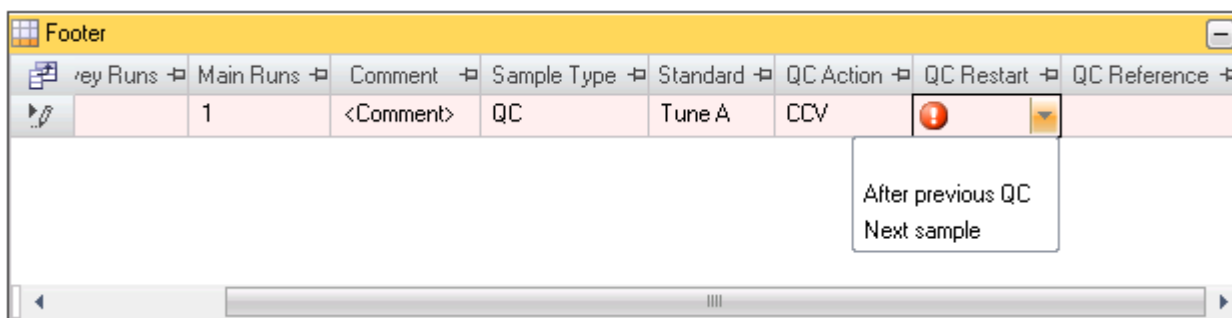

Figure 6-78. QC Restart drop-down in eQuant Template Sample Definition Footer
11. For the column **QC Restart**, select an option from the drop-down list, see Figure 6-78.